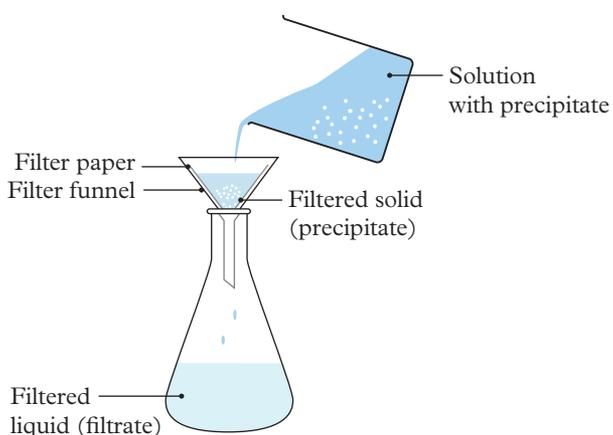

FIGURE 2 The solid precipitate can be filtered from the precipitate solution.
- 7 Set up the filtration using the filter paper with the known mass as shown in Figure 2.